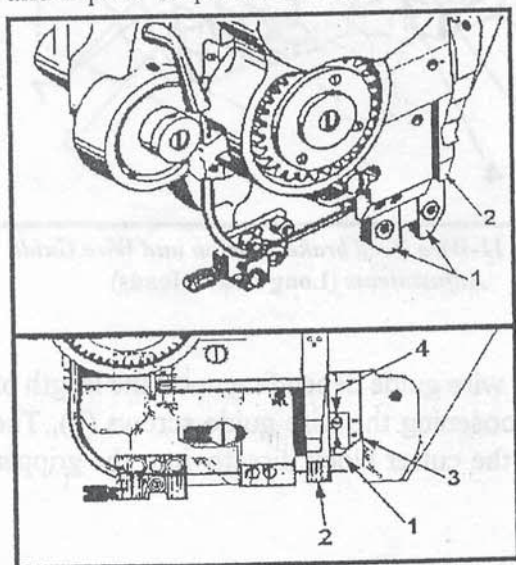
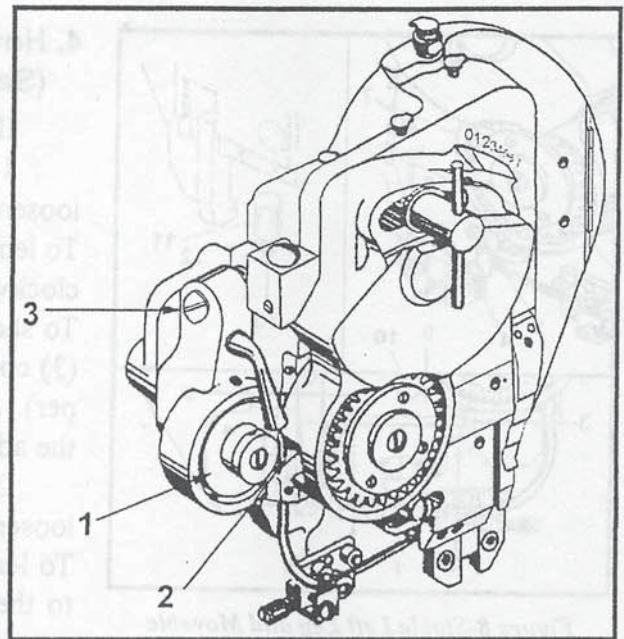

Figure 9-Adjustments for aligning Gripper Bar and Formers
Figure 10-Wire Fed Gear Tension Adjustment
6. How to Align the Gripper Bar and Formers (See Figure 9)
A. Rotate the stitch head's pulley manually as the formers (1) descend check that the groove in the formers are in exact alignment with the wire length being held by the gripper bar (2).
B. If they are not in exact alignment, usually resulting in a deformed crown surface, loosen the clamp block holding screw (3). Adjust the gripper bar adjusting screw (4) clockwise or counterclockwise until the alignment is correct and then tighten the clamp block holding screw (3).
7. How to Adjust the Tension of the Wire Feed Gears (See Figure 10)